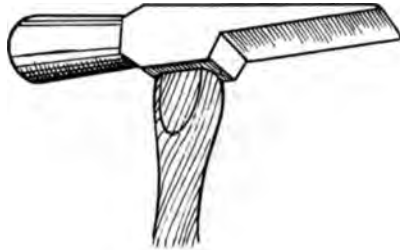

Fig. 13. Watchmaker's hammer.
**Watchmaker's Hammer** (Fig. 13). These hammers can be purchased with heads of steel or brass. The steel head is a